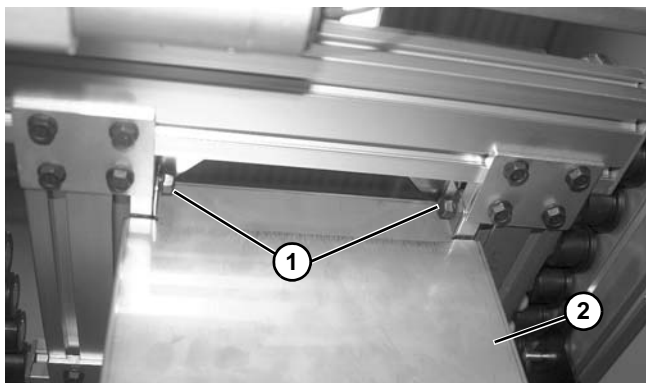

Figure 80
1. Remove optional guarding by loosening two screws (**Figure 80, item 1**) securing cylinder guard (**Figure 80, item 2**) over cylinder assembly.